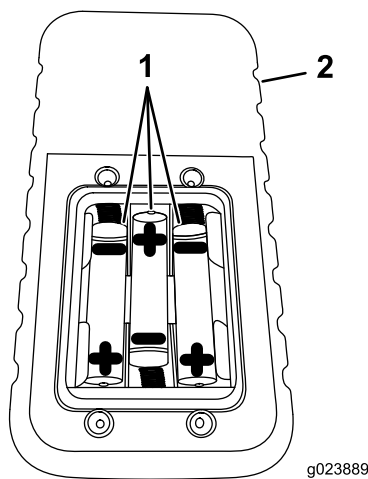

Figure 57
4. Install 3 new, AAA batteries in the orientation shown in Figure 57.